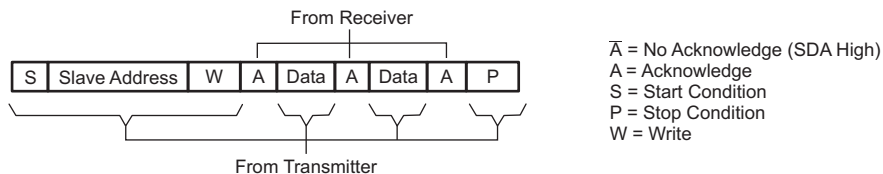
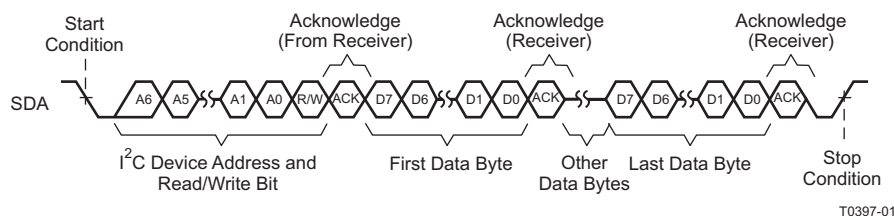
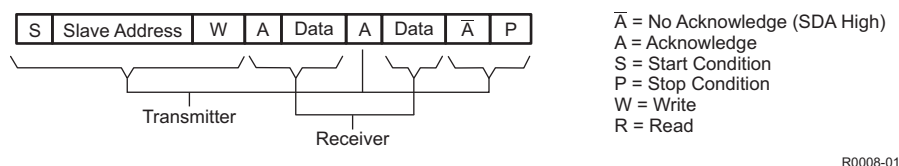
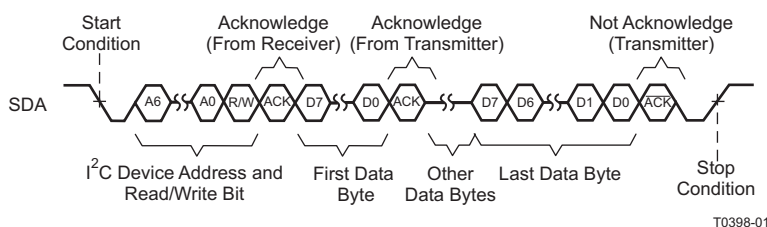

Figure 42. I²C Write Cycle
Figure 43. Multiple-Byte Write Transfer
Figure 44. I²C Read Cycle
Figure 45. Multiple-Byte Read Transfer
- The master generates further SCL cycles to either *transmit* data to the slave (R/W bit 0) or *receive* data from the slave (R/W bit 1). In either case, the *receiver* must acknowledge the data sent by the *transmitter*. So an acknowledge signal can be generated either by the master or by the slave, depending on which one is the receiver. The 9-bit valid data sequences consisting of 8-bit data and 1-bit acknowledge can continue as long as necessary (See Figure 42 through Figure 45).
During a write cycle, the transmitting device must not drive the SDA signal line during the acknowledge cycle so that the receiving device may drive the SDA signal low. After each byte transfer following the address byte, the receiving device pulls the SDA line low for one SCL clock cycle. A stop condition is initiated by the transmitting device after the last byte is transferred. An example of a write cycle can be found in Figure 42 and Figure 43. Note that the TMDS461 allows multiple write transfers to occur. See the Example – Writing to the TMDS461 section for more information.
During a read cycle, the slave receiver acknowledges the initial address byte if it decodes the address as its address. Following this initial acknowledge by the slave, the master device becomes a receiver and acknowledges data bytes sent by the slave. When the master has received all of the requested data bytes from the slave, the not-acknowledge ($\bar{A}$) condition is initiated by the master by keeping the SDA signal high just before it asserts the stop (P) condition. This sequence terminates a read cycle as shown in Figure 44 and Figure 45. See the Example – Reading from the TMDS461 section for more information.